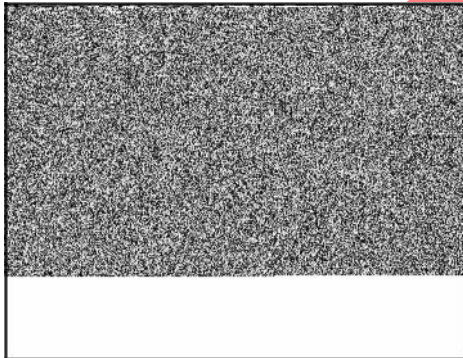

Figure 7
1. Loosen rocker arm screws and/or lock nuts (**A**, Figure 7 and 8), and remove from rocker arm studs. Remove rocker arms (**B**) and rocker balls from studs.